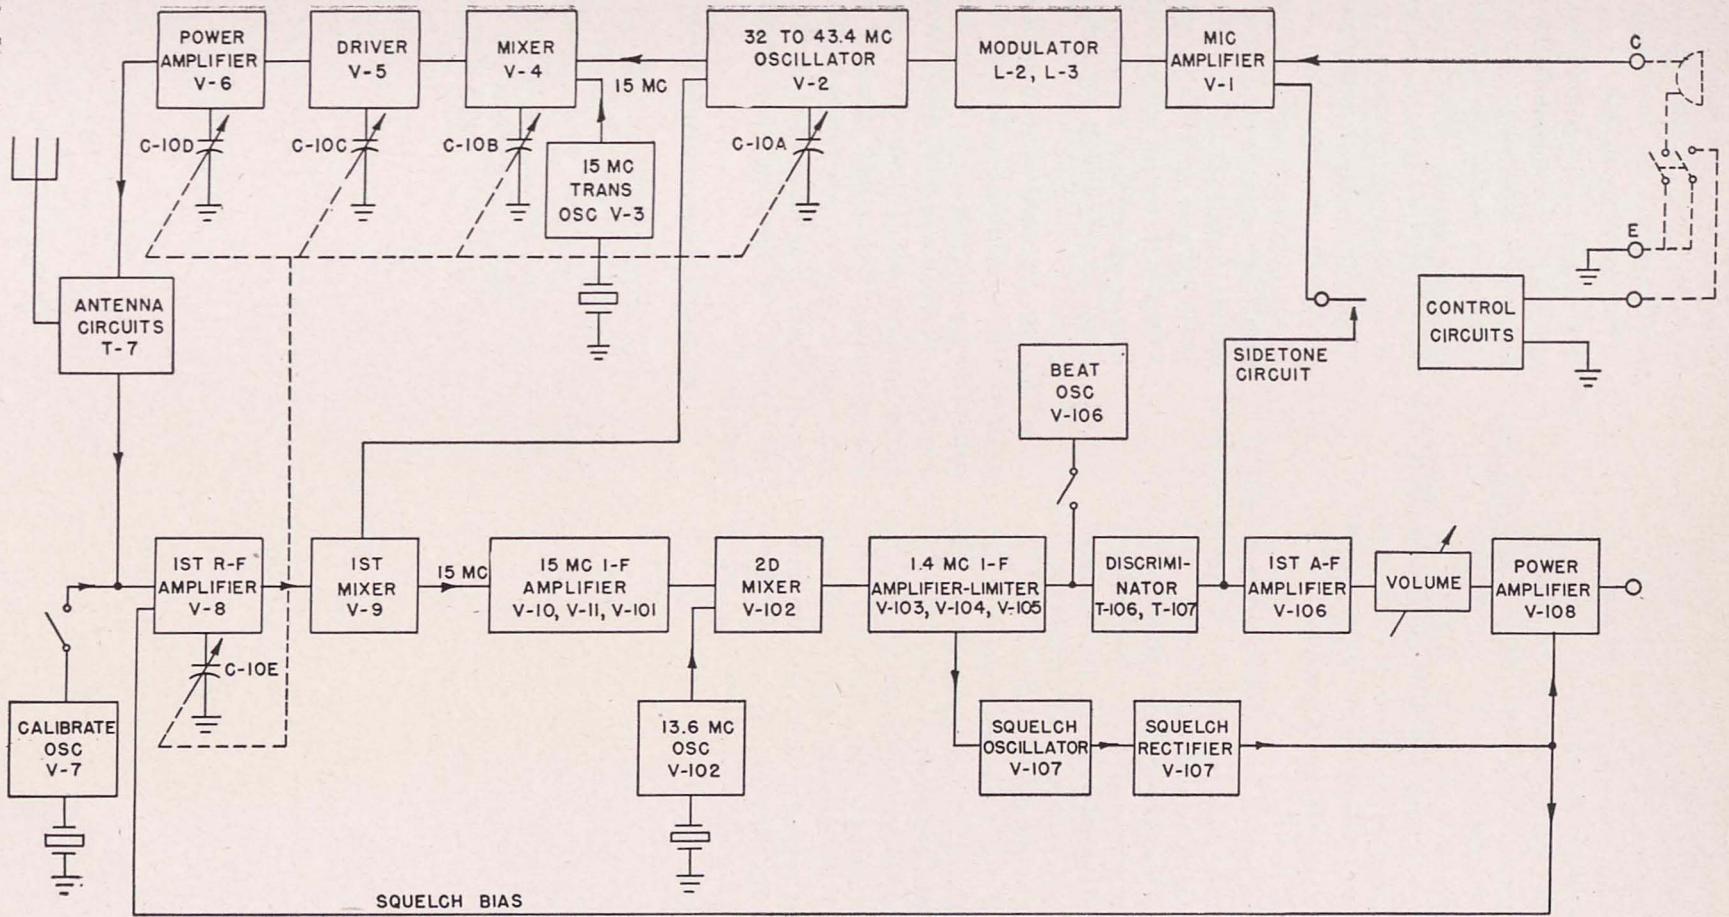

Figure 38. Receiver-Transmitter RT-70/GRC, block diagram.
a. When filament, plate, and screen voltages are all available as described above, the receiver and interphone amplifier are operative. The signal path of received signals from antenna to audio output circuits can be traced on the block diagram (fig. 38). The output of the receiver is supplied to a panel-mounted AUDIO receptacle, C/J-202A (J, 19), and to the interphone amplifier.
a. **TRANSMITTER SIGNAL PATH.** When the switching actions described above have taken place, the transmitter will be operative, and talking into the microphone (J, 07) will cause modulation of the transmitter. To trace the signal path through the transmitter, refer to the block diagram (fig. 38) and to the schematic diagram (fig. 65).
(fig. 38)
a. GENERAL. The signal path of the Set 2 receiver-transmitter is shown in the functional block diagram (fig. 38). A complete schematic diagram of the equipment is shown in figure 65. The block diagram shows that the equipment consists of a